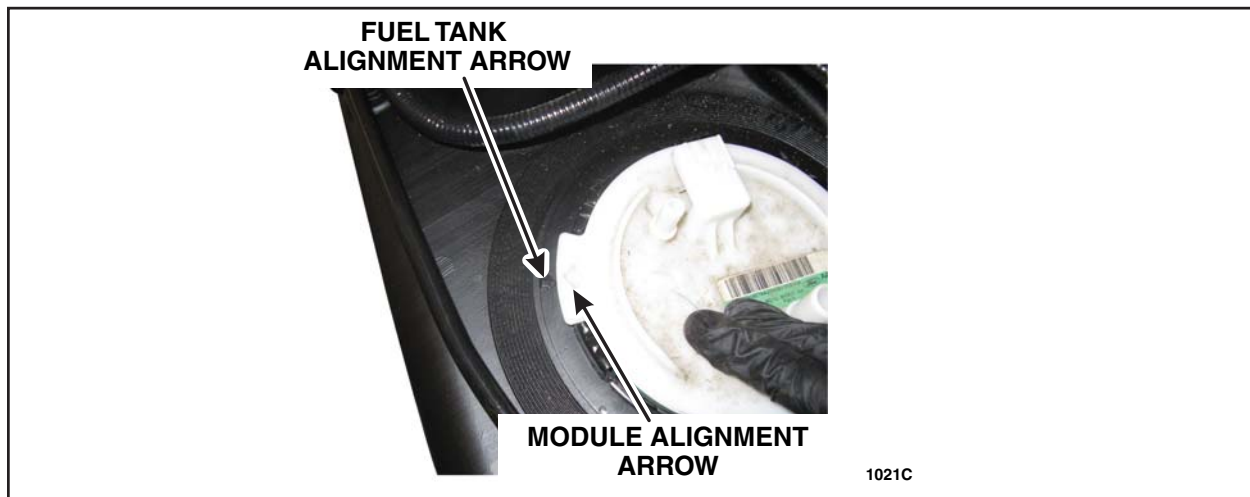

FIGURE 14
38. Align the fuel level sensor and fuel pump module arrows to the *new* fuel tank alignment arrows. See Figure 14.